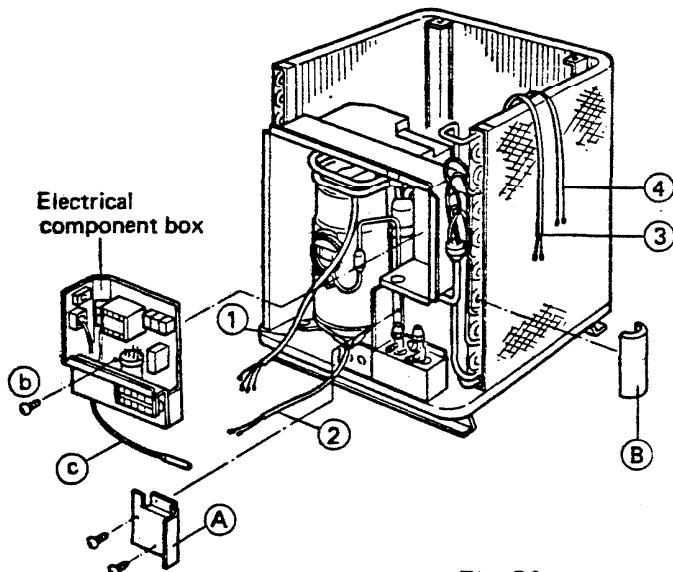

Fig. 21
- ① Compressor wire
- ② Crankcase heater
- ③ Four-way reversing valve wire
- ④ Pressure switch wire Fig. 21
- 4) The electrical component box can now be removed by unscrewing one screw **b**. Fig. 21